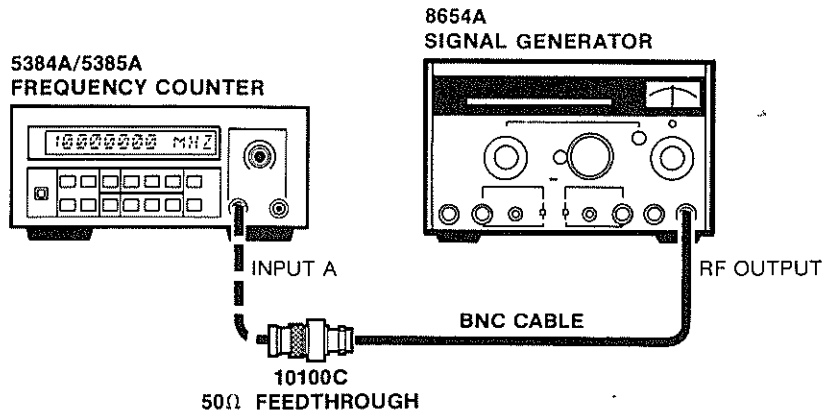

Figure 4-2. Channel A Frequency Response and Sensitivity Test Setup for 5384A/5385A
- a. Connect the HP 8654A Signal Generator to the 5384A/5385A A channel input as shown in Figure 4-2.